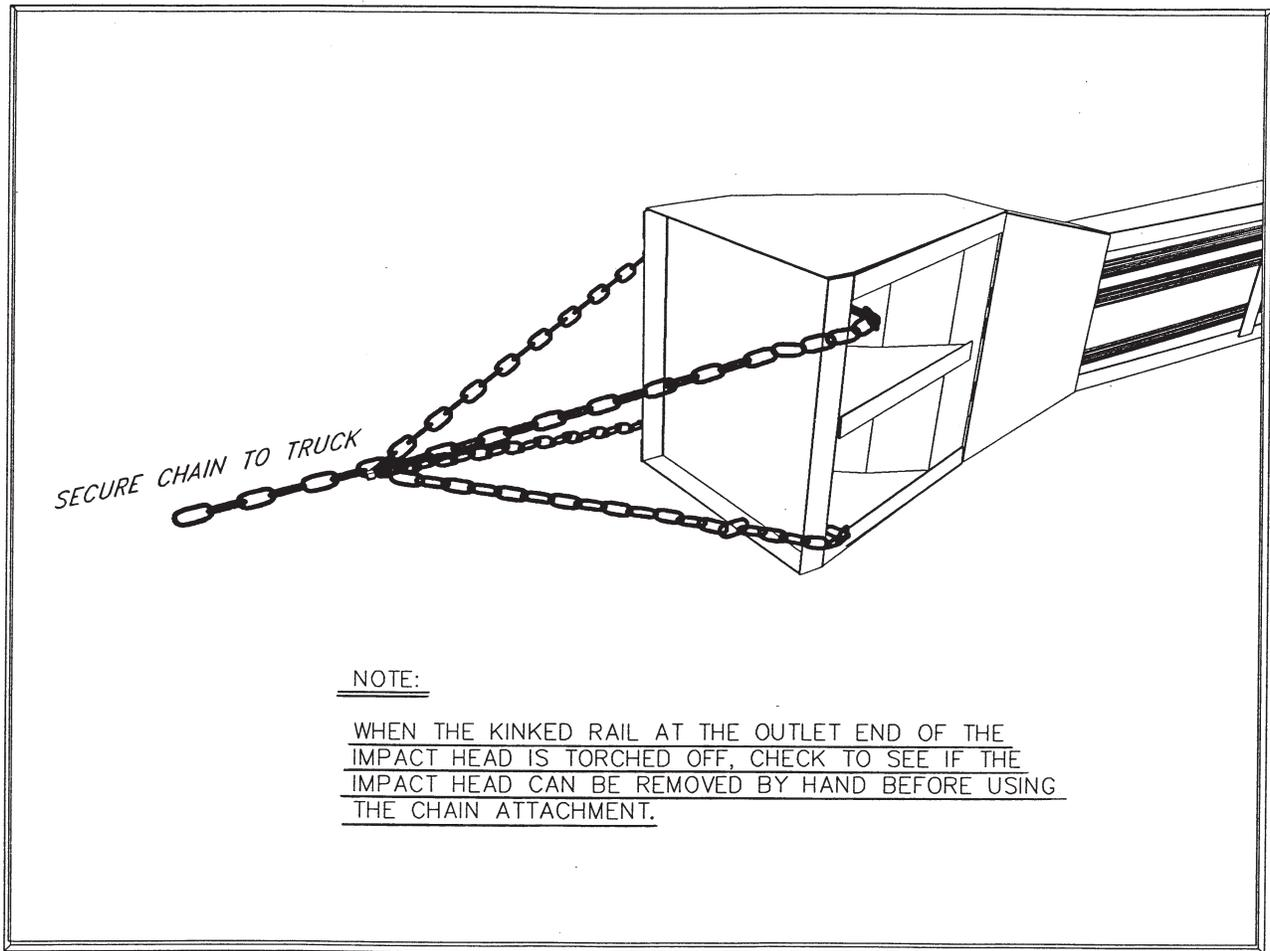
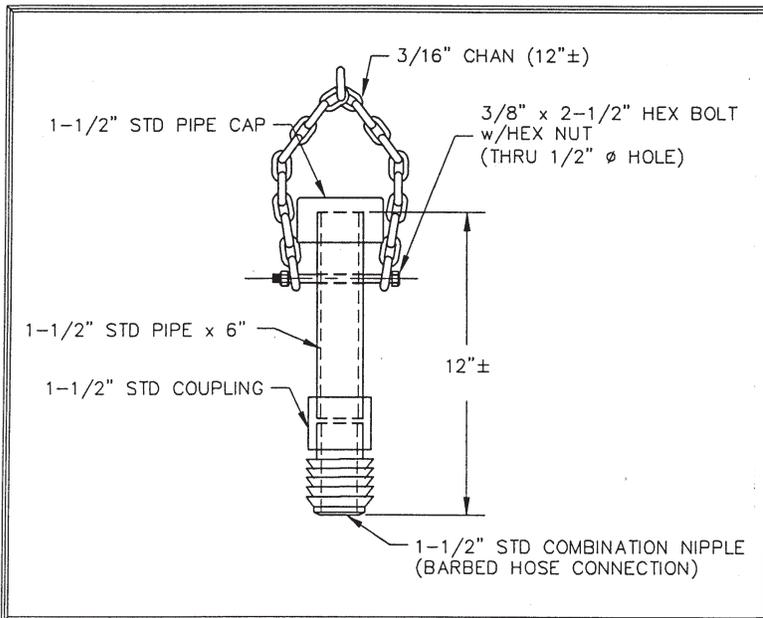

Figure 11. Chain Attachment to Remove Impact Head
Figure 12. Wood Post Pulling Tool (Pipe Option)
- Heavy duty chain to remove the impact head is sometimes required (see **Figure 11**),
- Post remover tool (see **Figures 12 and 13**),
- (1) Check the impact head for damage.
- (2) Check the cable anchor bracket and cable assembly for damage. The bearing plate, nuts, washers, cable anchor bracket, and the special cable anchor bracket shoulder bolts are rarely damaged.
- (3) Check the number of broken posts and wood blockouts that need to be replaced, along with any damaged bolts. Inventory and pick up the reusable parts.
- (4) Torch off the kinked rail near the outlet of the impact head. The impact head should be able to be **removed by hand** at this point. If not, then hook up a chain attachment through the opening behind the impact plate of the impact head, as shown in **Figure 11**. Pull the impact head off the rail with the chain attached to a truck frame with the W-beam guardrail still attached to the downstream guardrail posts.
- (5) Disconnect and remove the damaged rail from the posts.
- (6) Remove the broken posts from the foundation tubes using one of the two post removal tools (see **Figures 12 and 13**) assembled from "off the shelf hardware" items. Pound the steel pipe or screw the lag screw into the top of the broken post stub and remove the remains of the broken post by pulling on the chain. Use a pry bar as a lever if necessary.
- (7) Reinstall the system following the procedures listed in this manual.
- (1) Remove damaged rail and impact head from the roadway or shoulder area.
- (2) Using an acetylene torch, cut the kinked rail off at the outlet of the impact head and inspect the head for any damage.
- (3) Remove the impact head by hand. If this is not possible, then with a chain hook-up (see **Figure 11**), pull the impact head off the downstream rail that is still attached to the posts.
- (4) Locate the first post downstream of any damaged rail and cut this rail off about 9" in front of the post. If the post is at a splice, simply unbolt the damaged rail.
- (5) Install the impact head on the rail and attach it to the post with lag bolts.
- (6) Warning signs should be used where appropriate.